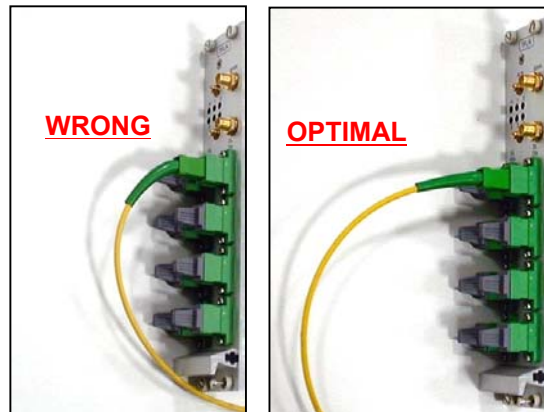

Fig. 20: Fibre Optic bending
- When inserting an optical connector, take care to handle it so smoothly that the optical fibre is not damaged. Optical fibres have to be single-mode (SM) 9.5/125µm.
- Do not force or stretch the fibre pigtail with radius of curvature less than 5 cm. See fig. 20 for optimal fibre cabling.